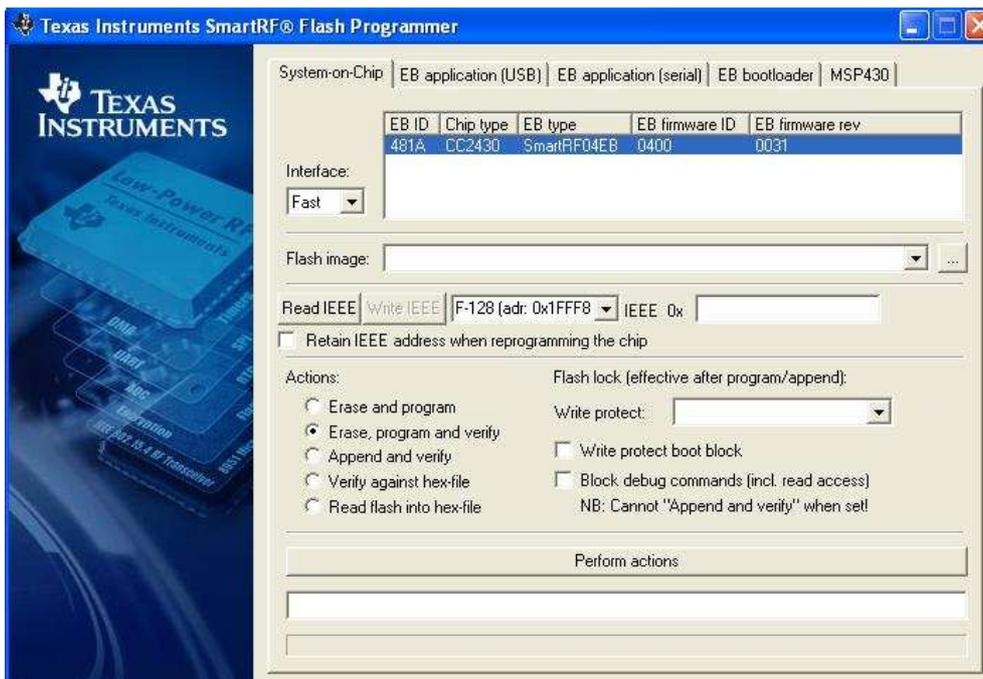

Figure 3 Flash Programmer
6. Open the Texas Instruments Flash Programmer, and choose the System-on-Chip tab. The connected device is shown in the list as in Figure 3.